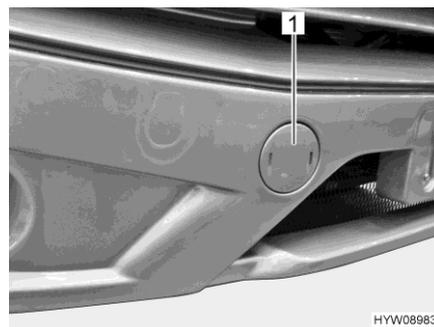

Fig. 25 Cover (mount of the towing eye)
- Lever up the cover (Fig. 25,1) using a screwdriver.